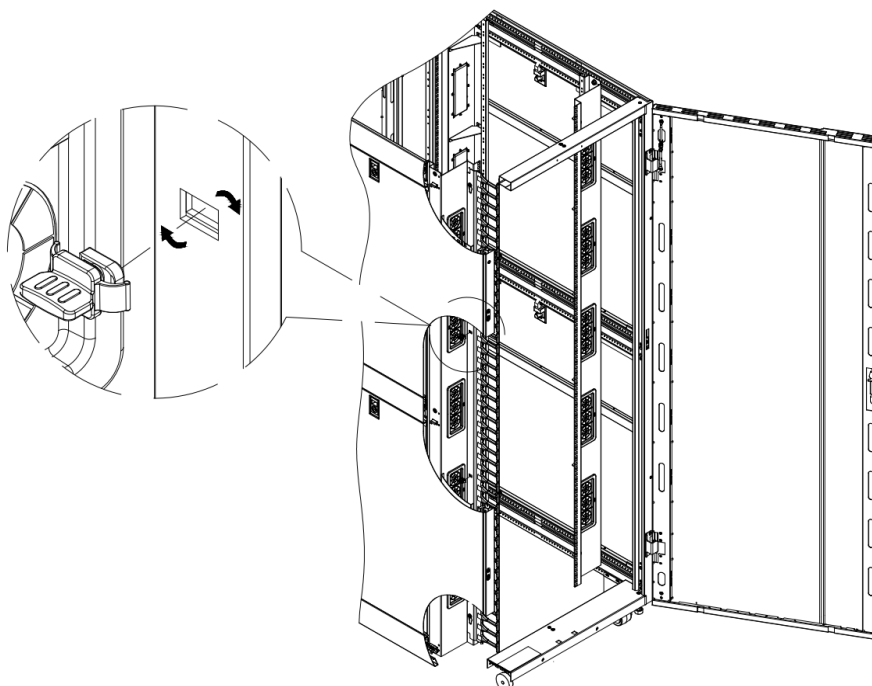

Figure 6.5.2
- Rotate the two purple cable manager locks 90 degrees and remove them from the cable manager (Figure 6.5.2).